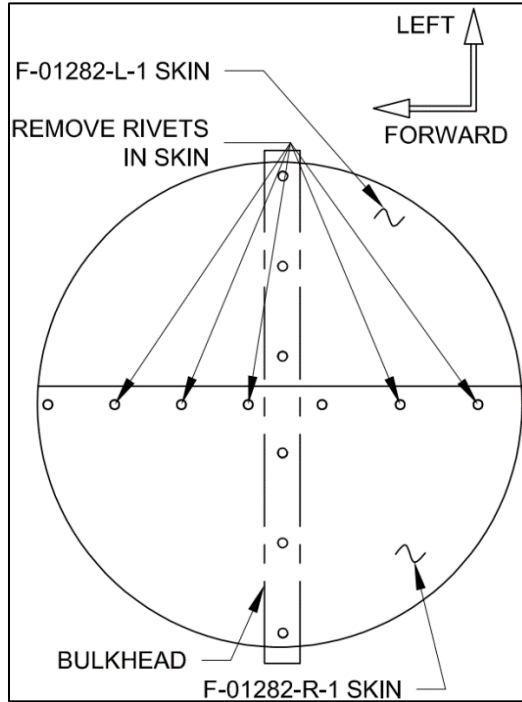

Figure 4 - Rivet Removal in Skins
Step 7: Remove rivets in skins as shown in Figure 4 at the F-1208 and F-1209 bulkhead locations. At the F-1210 bulkhead, only remove the three forward rivets depicted in Figure 4.